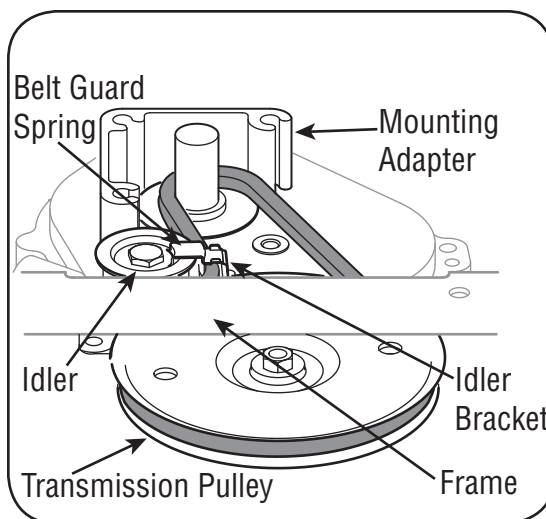

Figure 17
15. Insert new belt between the frame and the transmission pulley. See Figure 17. (You may have to slightly pry the frame away from the pulley with a screwdriver for this.)
17. Place the belt on the idler pulley and place belt guard spring back into the slot on the idler bracket. See Figure 17.